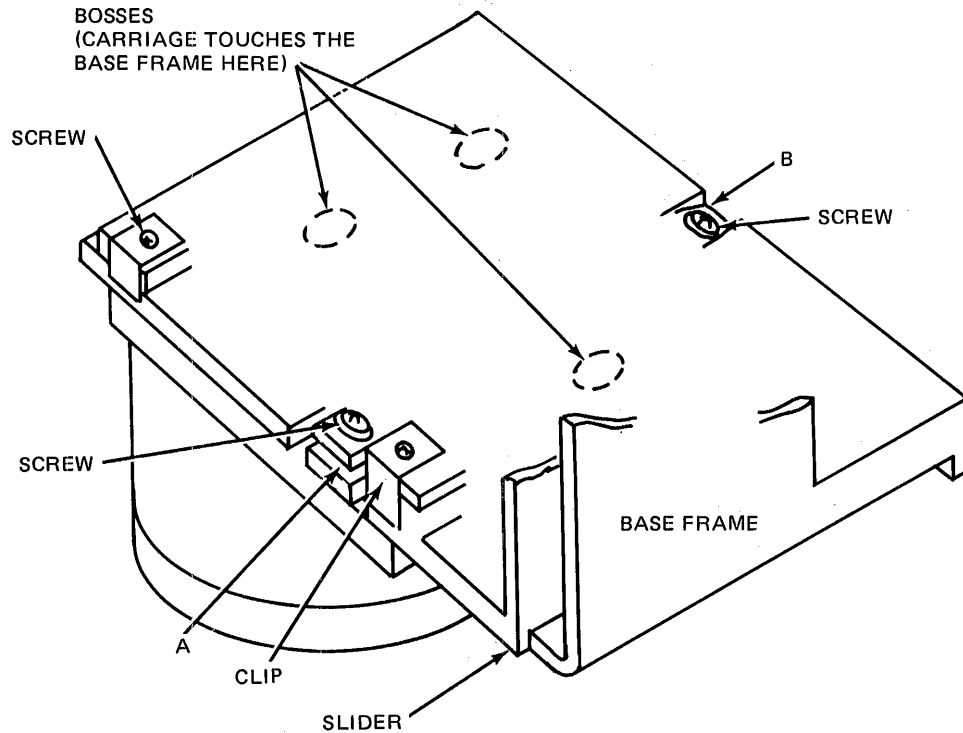

Figure 4-5 Carriage Assembly Position on the Base Frame
- d. Remove the screws that secure the metal clips to the base frame and remove the clips (see Figure 4-5).
- b. Hold the carriage assembly against the side of the base frame and measure the gap at points A and B in Figure 4-5.
- f. Check that the three boss surfaces are in contact (see Figure 4-5).